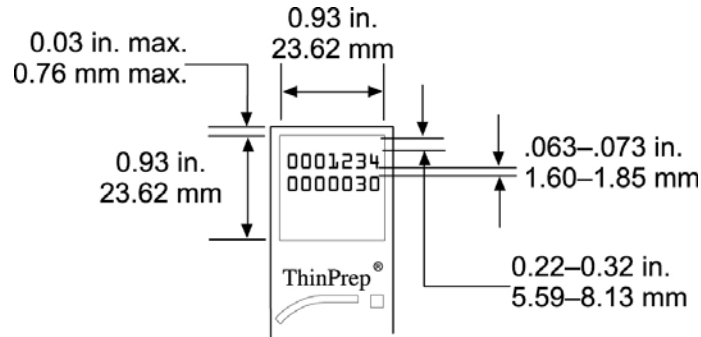

Figure 2 Dimensions of the Slide Label
The font must be 12-point OCR-A. The dimensions of the placement of the characters are shown in Figure 2. Please note that a 'no text' zone of exactly one (1) character dimension (1.6 mm or .063") should surround the print area.